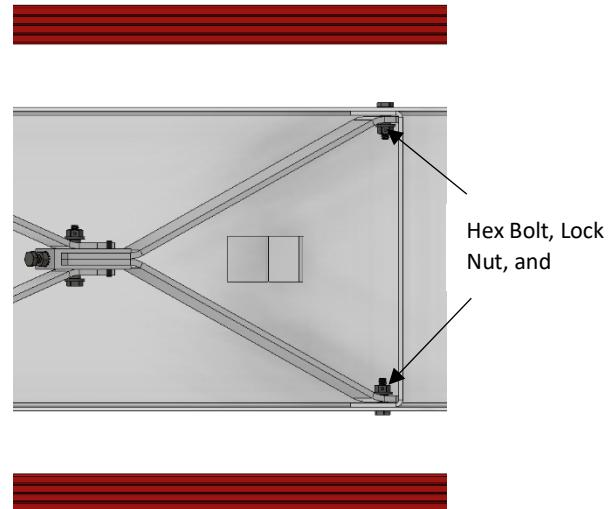

Figure 4
6. Unthread and remove the two 1/4"-20 center lock nuts and 1/4"-20 x 1" hex bolts securing the Locking Brace Assembly to its mounting holes on the top assembly as indicated in Figure 4.
2. Using two of the new bushings supplied with the Locking Brace Assembly, place a bushing through each of the mounting holes on the long upper strut of the Locking Brace Assembly and align mounting holes on the long upper strut with the mounting holes on the top assembly as indicated in Figure 4.
3. Using a new 1/4"-20 x 1" hex bolt, insert the new hex bolt through the mounting hole on the top assembly and through the bushing in the mounting hole on the long upper strut of the Locking Brace Assembly on one side of the top assembly as indicated in Figure 4.